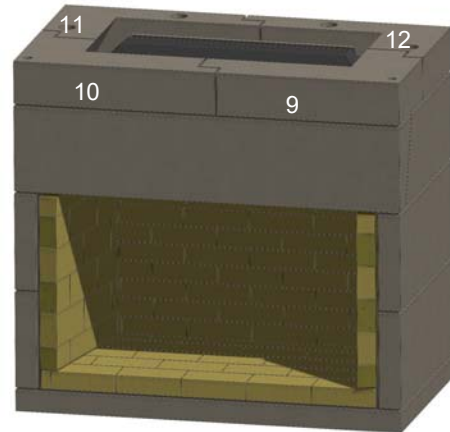

Figure 13. Lower Throat Level
I. Install the first complete ring of four interlocking throat components (items 9, 10, 11 and 12). Check with a level. See Figure 13.